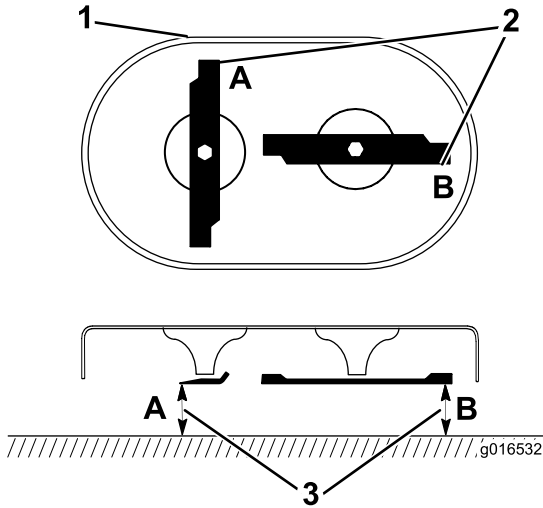

Figure 33
1. Rotate the blades until they are positioned as shown in Figure 33.